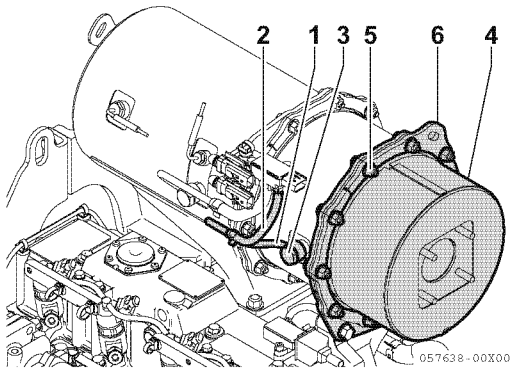

Figure 13-16
- Loosen the hose clip for the hose (Figure 13-16, (2)) connected to the SF side exhaust pressure pipe (Figure 13-16, (1)), and remove from the pipe.
- Remove the M8 bolts and flange nuts (Figure 13-16, (5)) (8 or 10 of each) that fix the silencer (or outlet flange) (Figure 13-16, (4)).